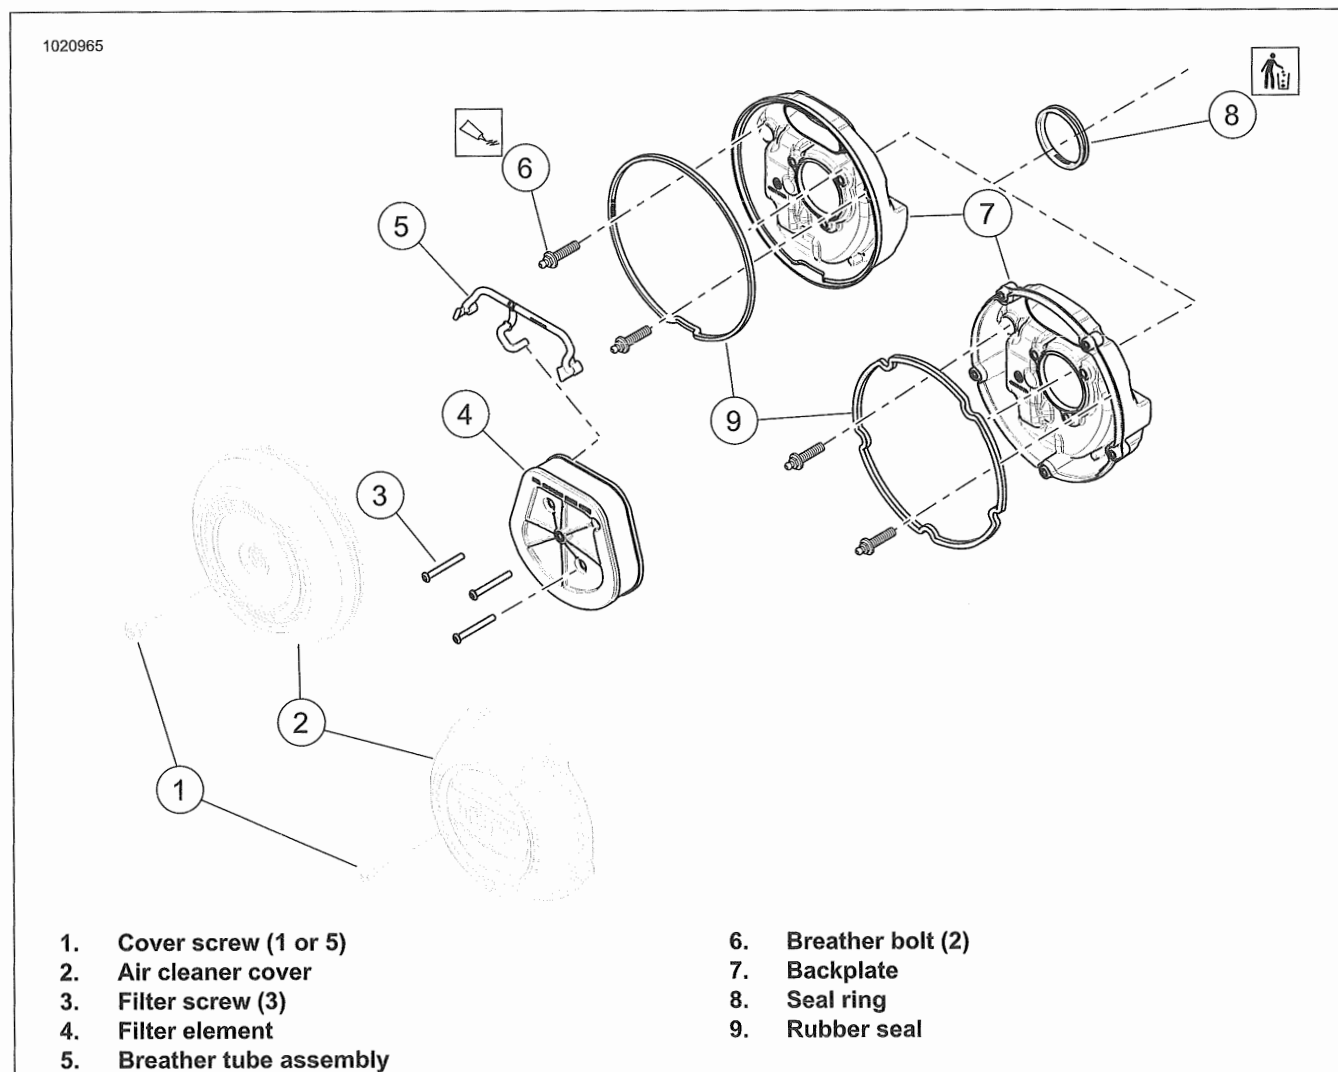

Figure 6-1. Air Cleaner Assembly
1. See Figure 6-1. Remove breather tube assembly (5) from breather bolts (6).
3. Remove backplate (7).
4. Discard seal ring (8).
5. Verify that passages in breather bolts (6) are clear.
1. See Figure 6-1. Install **new** seal ring (8) on backplate (7).
2. Apply thread sealant to threads of breather bolts (6).